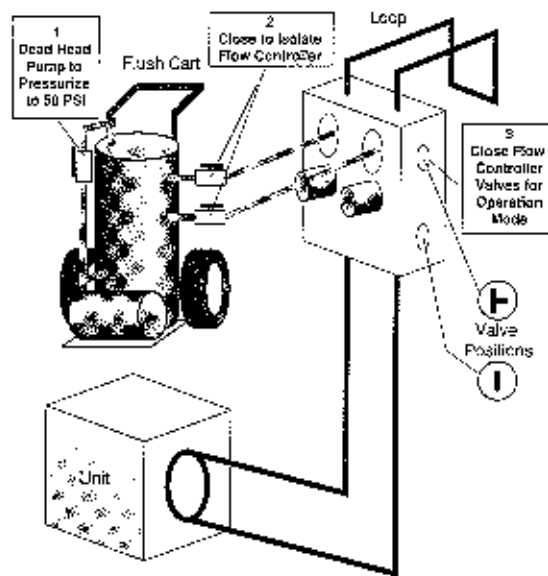

Figure 9E - Valve Position E - Pressurize and Operation
- 7) Close the flush cart return valve; immediately thereafter, close the flush cart supply valve, shut off the flush cart leaving a positive pressure in the loop of approximately 40-50 psi for summer and 50-75 psi for winter. Refer to Figure 9E for more details.